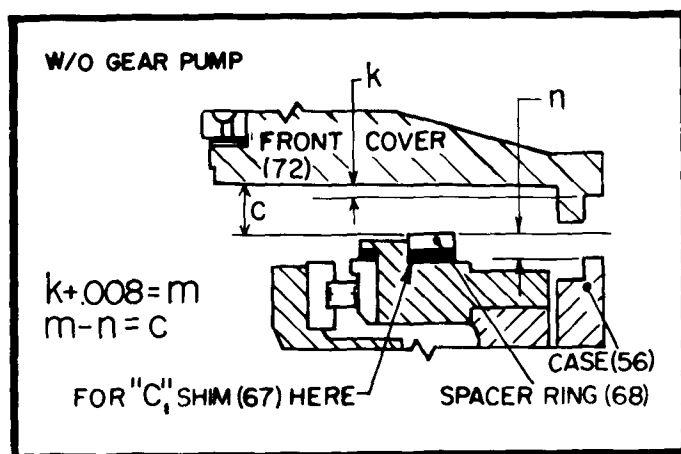

Figure 12. Slideblock End Clearance W/O Gear Pump. (508644)
See Figure 12. Without Gear Pump — For housings (72) without gear pump, measure from face of housing to gasket surface of same housing.